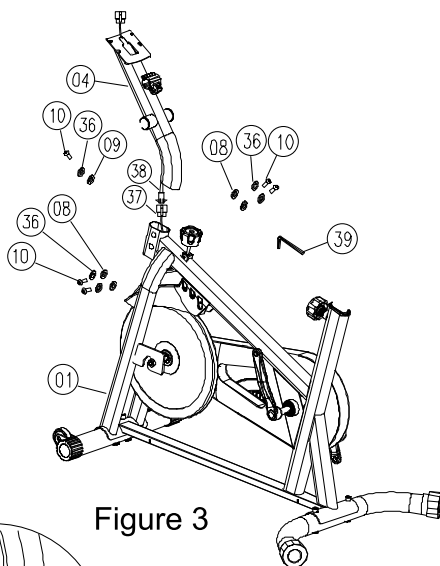

Figure 3
3. Join the sensor cables (Part 37 and Part 38), then assemble the front upright column (Part 04) to the Main Frame Assembly (Part 01). Fasten the assembly with five M8×14 hex socket button head screws (Part 10), five $\Phi 8$ spring washers (Part 36), four $\Phi 9 \times \Phi 16$ flat washers (Part 08) and one $\Phi 9 \times \Phi 16$ curved washer (Part 09), as shown in Figure 3.